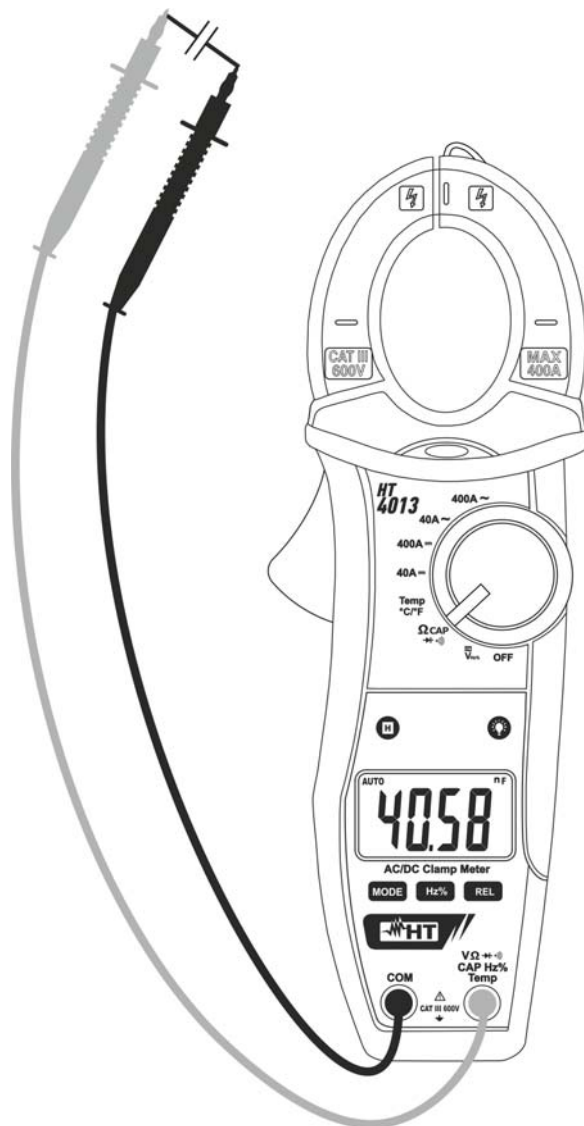

Fig. 8: Use of the clamp for capacitance measurement
4. Position the test leads in the desired points of the circuit to be measured (see Fig. 8). The display shows the value of capacitance.